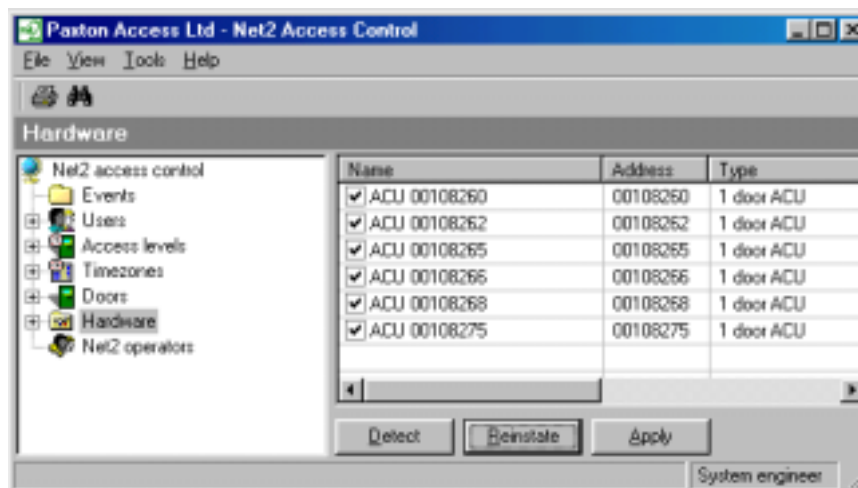

Figure 4.24
5. Select **Reinstate** in the **Hardware** screen, see figure 4.24 (only available to **System Engineers**).